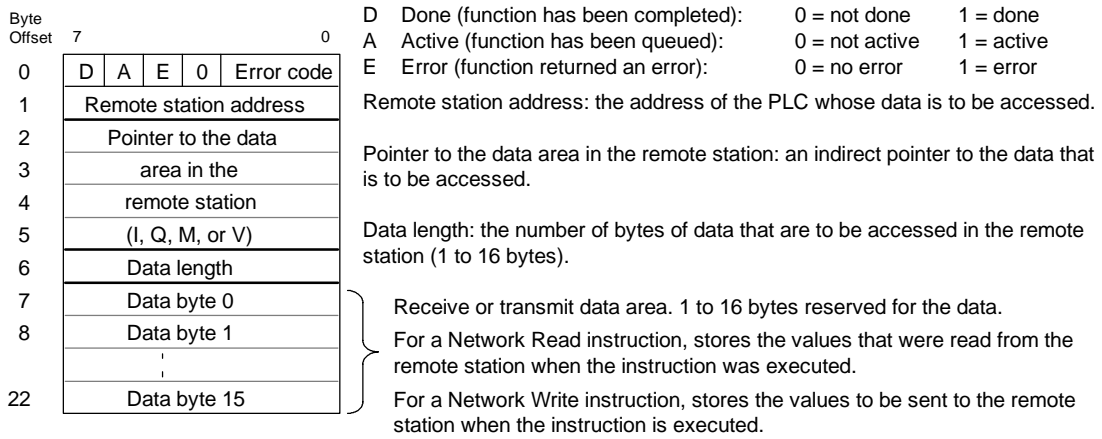

Figure 6-5 TBL Parameter for the Network Read and Network Write Instructions
- If the function returns an error and sets the E bit of table status byte (see Figure 6-5)
Figure 6-5 describes the table that is referenced by the TBL parameter, and Table 6-10 lists the error codes.